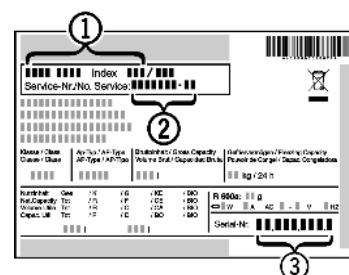

Fig. 64
- ▶ Read off the appliance name *Fig. 64 (1)*, service no. *Fig. 64 (2)* and serial no. *Fig. 64 (3)* from the model plate. The model plate can be found on the inside of the appliance on the left.